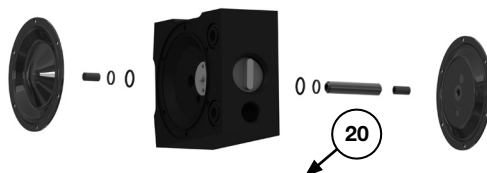

Figure 10
For VA-C50 and VA-C130 (not for VA-C10 and VA-C20). Remove carefully the diaphragm shaft bearings and o-rings (20) from their grooves in the centre housing. (If disassembled they need to be replaced!) Take care not to damage the edges of the grooves (see Figure 10).